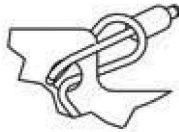
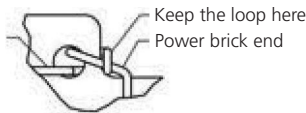

Figure 4-3. Insert the plug end of the wire through the loop.
Figure 4-4. Make sure the loop is on the side of the divider, not on top of it.
**Step 3.** Insert the loop created in Step 2 through the rear small hole at the top of the divider (Figure 4-2). Then, place the plug end of the wire through the loop (Figure 4-3). Make sure that the loop is on the side of the divider (not on top of it—see Figure 4-4). This will ensure that the divider will slide back into the cart. Then, tighten the loop down to the divider, tightening the knot.